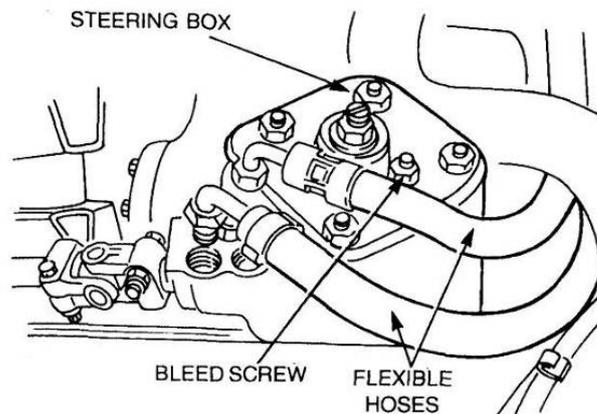

Figure 130 Removal of the Flexible Hoses to the Steering Box
- Disconnect the flexible hoses from the steering box housing (Figure 130). Plug the disconnected hoses and connections to prevent ingress of foreign matter.